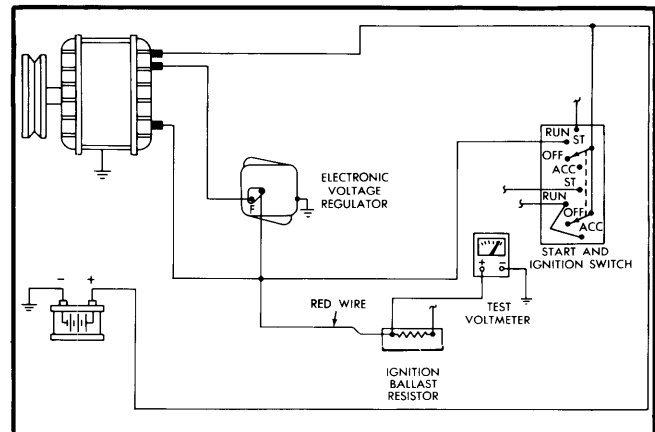

Fig. 1 Test Connections for Voltage Regulator Test
1) Connect positive lead of a voltmeter to terminal of single ignition ballast resistor having the Red wire. See Fig. 1. DO NOT remove connector from ballast resistor. Connect negative lead of voltmeter to a good ground. Start and run vehicle at 1250 RPM with all lights and accessories turned off. Check voltmeter, noting that regulator is working properly if voltage readings are within specifications.